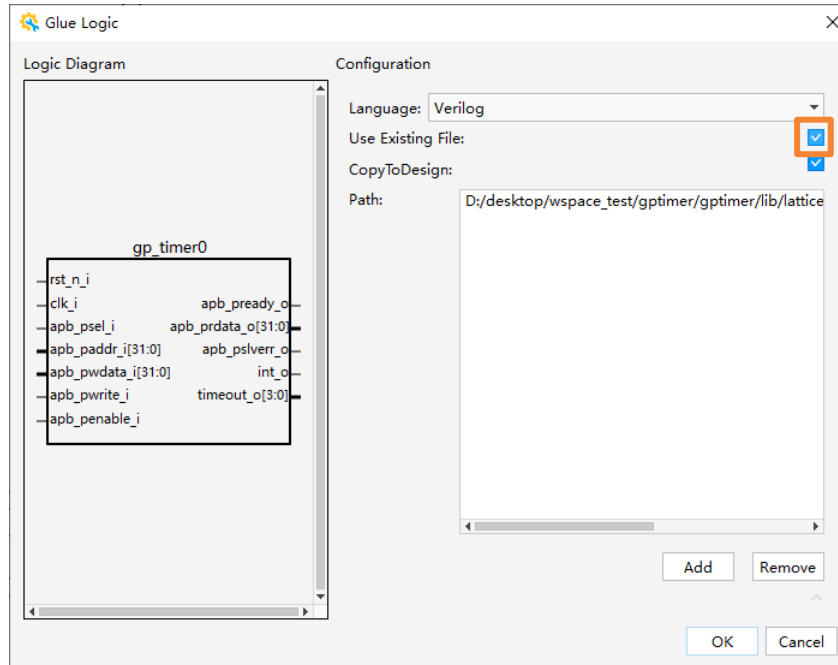

Figure 2.59. Existing RTL Module Configuration
- Or, you can use an existing RTL module by checking the **Use Existing File** checkbox. After checking the Use Existing File checkbox (Figure 2.59), browse to find the existing RTL module file path from the **Path** field. If you use an existing file, RTL references that file from the source. If you do not use an existing file, RTL creates a new file called `<module name>.v`. If **CopyToDesign** is enabled, a copy of the original source is created in the Propel project under `<project>/lib/gluelogics/`, if not enabled, it is referenced from its current location (default is CopyToDesign).